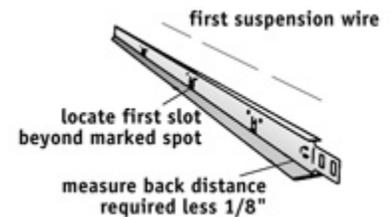

Figure 12 Main tees generally have cross tee slots every 12".
- a) Most main tees are 12' long and have cross tee slots punched every 12" beginning 6" from each end (Fig. 12).
a) Most main tees are 12' long and have cross tee slots punched every 12" beginning 6" from each end (Fig. 12).